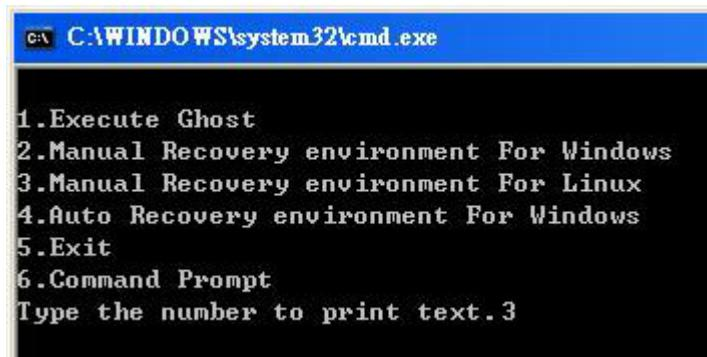

Figure B-31: Manual Recovery Environment for Linux
**Step 4: Build the recovery partition.** Press any key to boot from the recovery CD. It will take a while to launch the recovery tool. Please be patient. When the recovery tool setup menu appears, type <3> and press <Enter> (**Figure B-31**). The Symantec Ghost window appears and starts configuring the system to build a